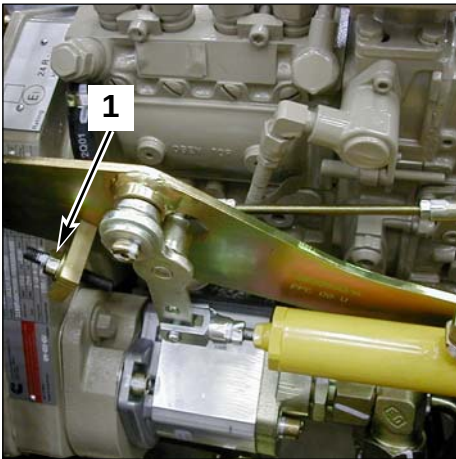

Fig. 1 Injection pump
- 1- Loosen the lock nut and turn the stop screw (1 fig. 1).